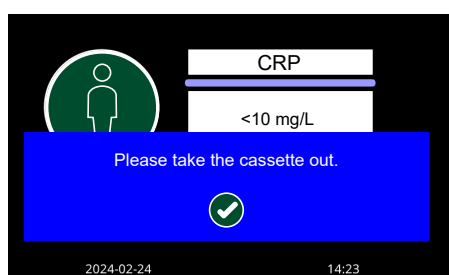

Figure 28. Patient's result screen
- Once the measurement is completed, the tray will come out and the analyte test result with the Patient ID will appear. See Figure 28.